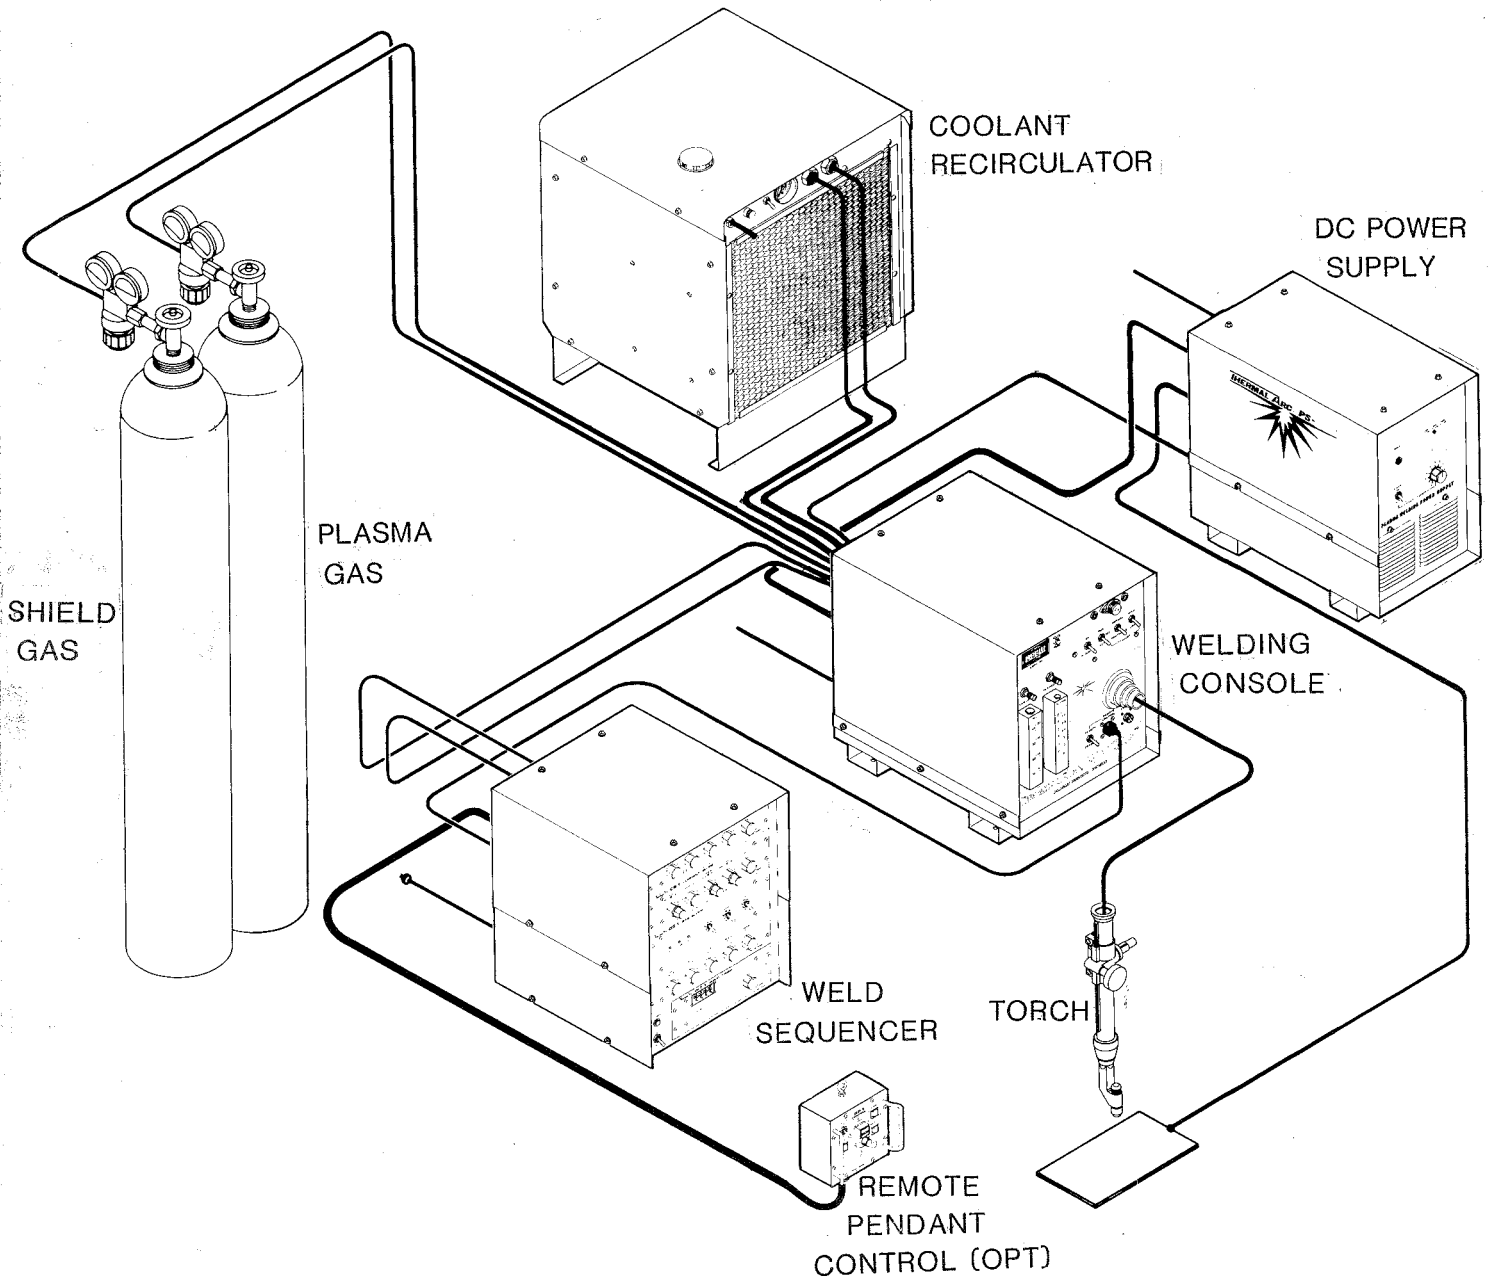

Figure 1-A Plasma Welding System
The Thermal Arc PWH/M-4A Plasma Welding Torch is designed to use transferred plasma arc process for direct current (DC) welding of ferrous and non-ferrous metals. It is part of a welding system that includes the control console, DC power source, coolant supply and gas supply (see Figure 1-A).